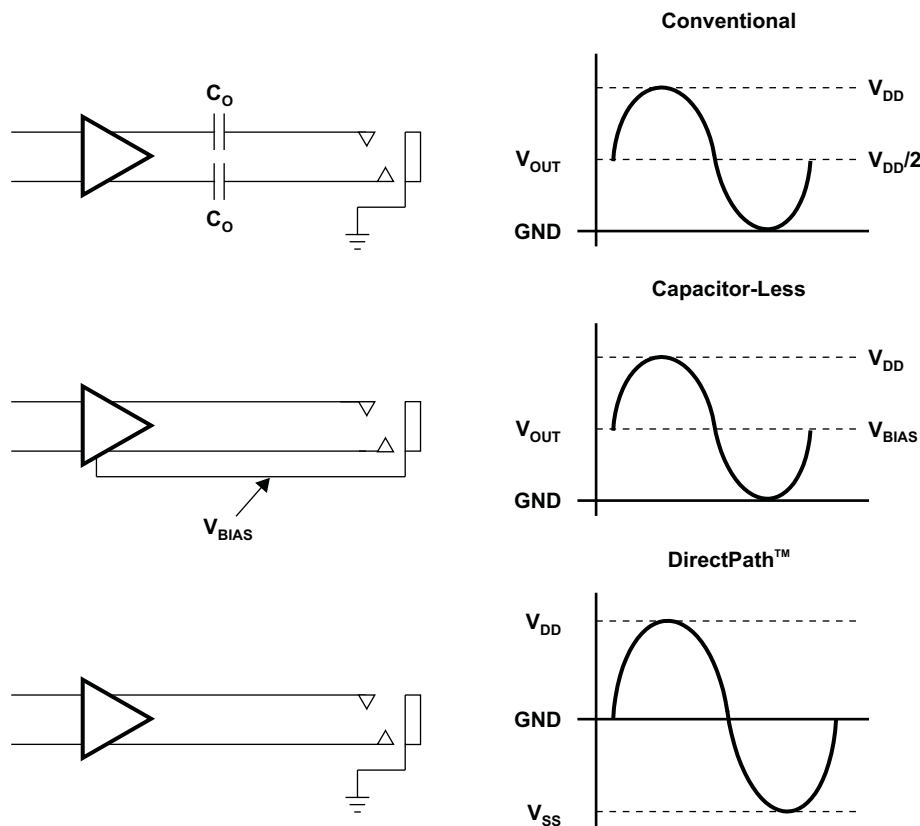

Figure 43. Amplifier Applications
The headphone amplifier has a fixed gain of -1.5 V/V. It uses single-ended (SE) inputs. The DirectPath™ amplifier architecture operates from a single supply but makes use of an internal charge pump to provide a negative voltage rail. Combining the user-provided positive rail and the negative rail generated by the IC, the device operates in what is effectively a split supply mode. The output voltages are now centered at zero volts with the capability to swing to the positive rail or negative rail. The DirectPath™ amplifier requires no output dc blocking capacitors and does not place any voltage on the sleeve. The block diagram and waveform of Figure 43 illustrate the ground-referenced headphone architecture. This is the architecture of the TPA6041A4.
Single-supply headphone amplifiers typically require dc-blocking capacitors. The capacitors are required because most headphone amplifiers have a dc bias on the outputs pin. If the dc bias is not removed, the output signal is severely clipped, and large amounts of dc current rush through the headphones, potentially damaging them. The left-side drawing in Figure 43 illustrates the conventional headphone amplifier connection to the headphone jack and output signal.
Two different headphone amplifier applications are available that allow for the removal of the output dc blocking capacitors. The capacitor-less amplifier architecture is implemented in the same manner as the conventional amplifier with the exception of the headphone jack shield pin. This amplifier provides a reference voltage, which is connected to the headphone jack shield pin. This is the voltage on which the audio output signals are centered. This voltage reference is half of the amplifier power supply to allow symmetrical swing of the output voltages. Do not connect the shield to any GND reference, or large currents will result. The scenario can happen if, for example, an accessory other than a floating GND headphone is plugged into the headphone connector. See the second block diagram and waveform in Figure 43.